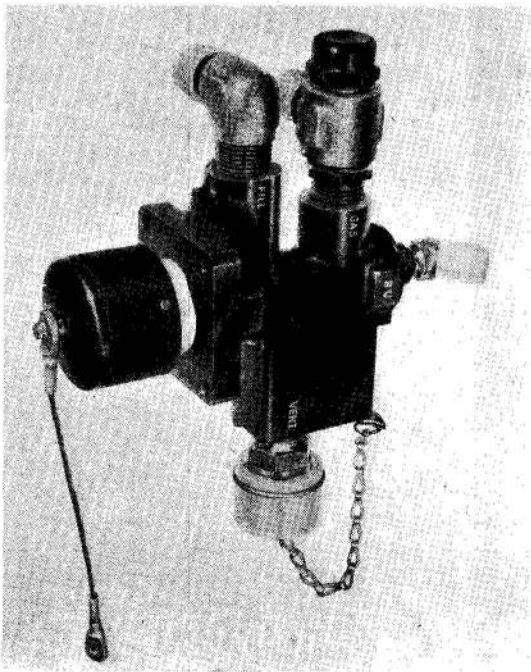

Fig. 1. Combined filler, build-up, vent and relief valve
1. This combined filler, build-up, vent and relief valve (fig. 1) is normally fitted to certain liquid oxygen converter package assemblies. The valve is the filling medium for the container of the package assembly and also enables the gas within the container to be vented to atmosphere during the filling operation. The valve reverts to a build-up condition automatically when filling is completed and the ground filling connector is disconnected. In the build-up condition, an integral relief valve operates if the system pressure exceeds 200 lb/in².